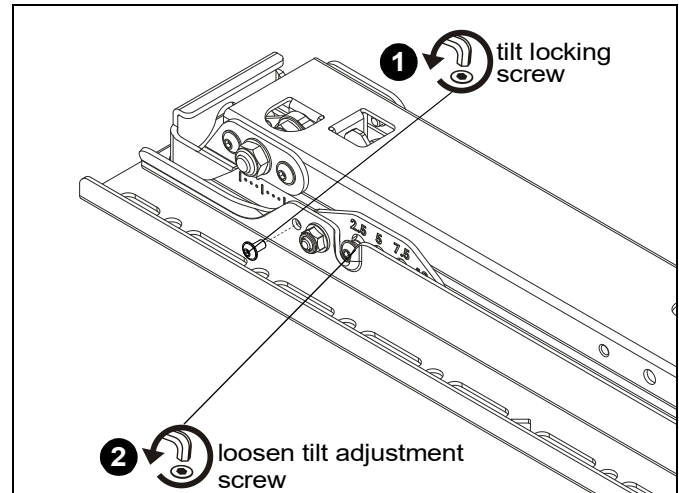

Figure 32
1. With display removed from mount, remove home tilt locking screws from interface brackets (A and B). (See Figure 32)
2. Loosen tilt adjustment screws on interface brackets (A and B). (See Figure 32)